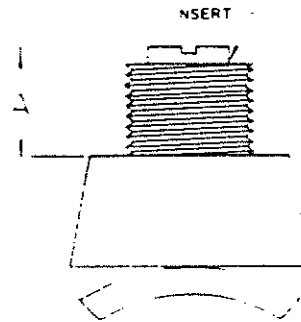

Figure 7. The above Installation Dimension Tag is attached to each fitting.
- A. Remove the insert (see Figure 7) before installing the fitting.
- F. Reinstall the insert, referring to the "A" dimension in Figure 7